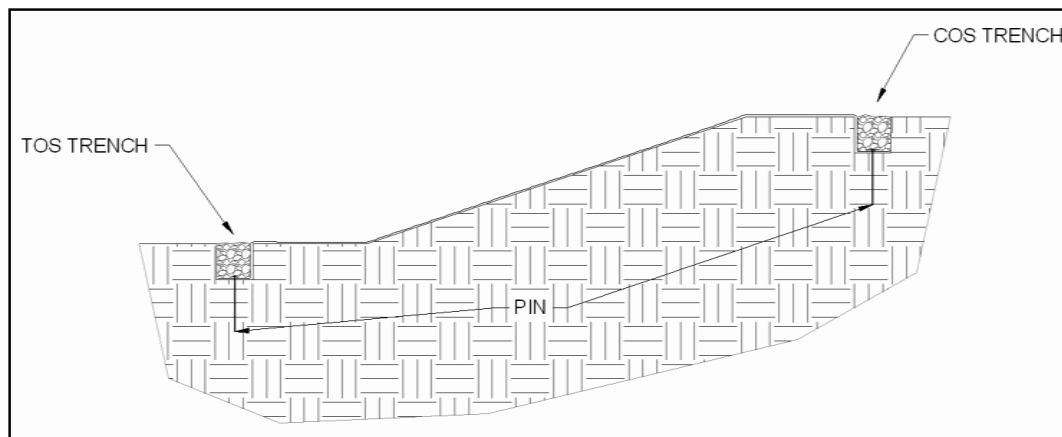

Figure 12: Crest of Slope (COS) Trench and Toe of Slope (TOS) Trench Complete
1. Begin the Landlok 450 laydown process by starting with the downstream / downwind end of the site. To ensure proper pinning of the overlapped areas the proceeding roll width must be laid out before the current roll width can be pinned with exception to the final roll width. For straight sections of a slope, Landlok 450 panel lengths should be long enough to construct COS and TOS trenches while also covering the surface of the slope being armored (Figure 12). Panel edges should rest approximately perpendicular to the slope center line. For best results, panels of Landlok 450 should be continuous and free from seams or roll end overlaps that are parallel to the centerline of the slope. Panel edge overlapping should follow a pattern of placing each proceeding panel's edge overtop the previous panel edge, shingling the panels in the direction of the water flow or prevailing wind.
7. Secure Landlok 450 with pins in the TOS trench. Suggested placement of pins for the TOS trench is along the bottom of the trench with pins on 12 in (300 mm) centers (Figure 12).
8. Backfill and compact the TOS trench. (Figure 12)